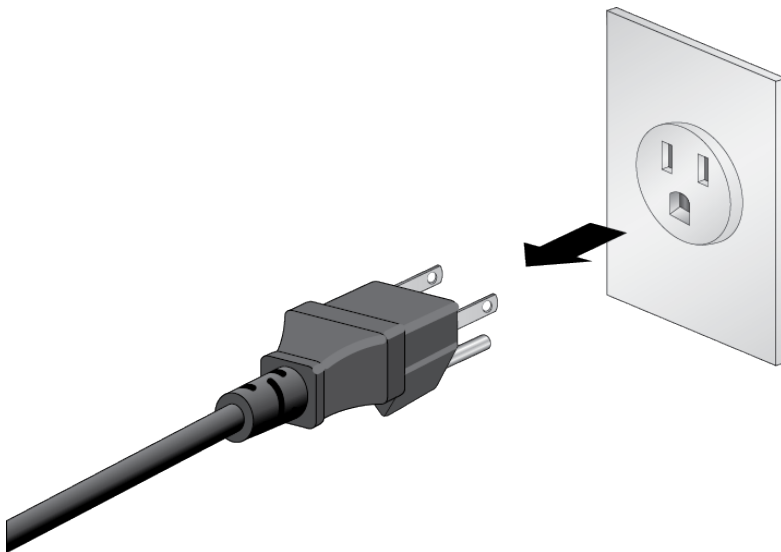

Figure 129. Disconnecting the AC Power Cord from the Power Source
1. Disconnect the AC power cord for the power supply from the AC power source. Refer to Figure 129.